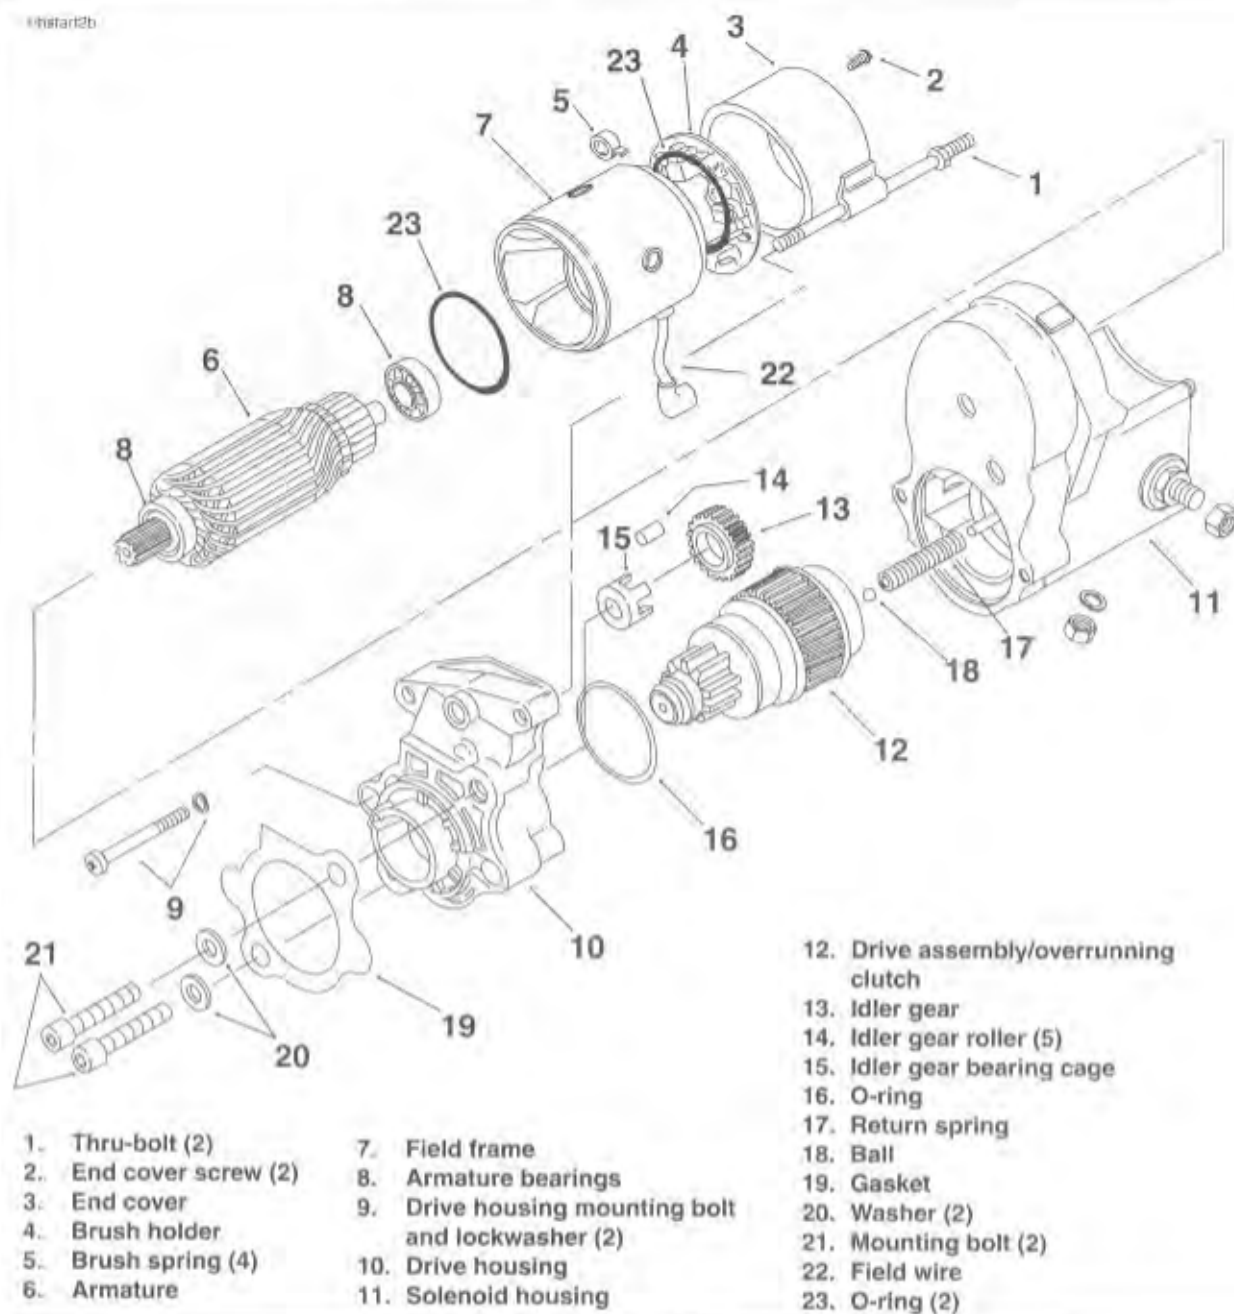

Figure 5-11. Starter Assembly
1. See Figure 5-11. Remove field wire (22).
6. See Figure 5-11. Remove armature (6) and field frame (7).
15. See Figure 5-11. Check armature bearings (8) and replace if necessary.
2. See Figure 5-11. When installing drive assembly components, open end of idler bearing cage (15) faces toward solenoid.
3. When installing drive housing (10) to solenoid housing (11), use new O-rings (16). Be sure to install return spring (17) and ball (18).
4. Lubricate armature bearings (8) and felt washer (20) (883 only) with high temperature grease, such as LUBRIPLATE 110. Install armature (6) and frame (7) to solenoid housing (11).
5. Install brushes and brush holder (4).
6. Install end cover (3) with screws (2) and O-rings (1200 only).
7. Install bolts (1).